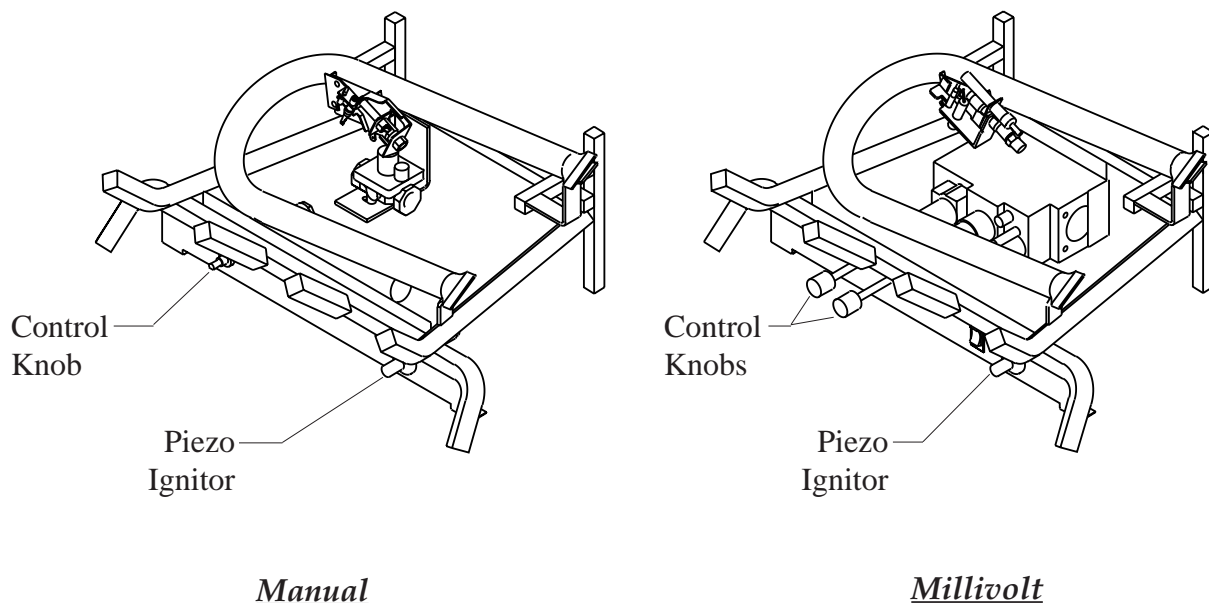

Figure 22: Location of Piezo Ignitor & Control Knob
4. Refer to *Figure 22* for the location of the piezo ignitor and control knob. Push in gas control knob slightly and turn control knob clockwise  to the OFF position.